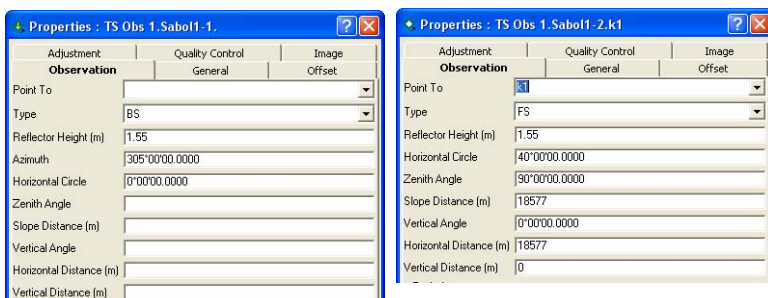

Figure 5-91. Properties for BS and FS points
- For BS, set the value for the Horizontal Circle (Figure 5-91 on page 5-59). If this unit was equal to zero, set zero in this field.